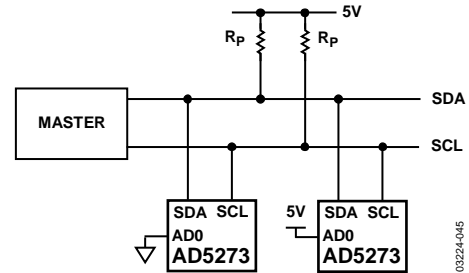

Figure 45. Two AD5273 Devices on One Bus
1. The master initiates data transfer by establishing a start condition. A start condition is defined as a high-to-low transition on the SDA line while SCL is high, as shown in Figure 42. The byte following the start condition is the slave address byte, which consists of six MSBs defined as 010110. The next bit is AD0; it is an I²C device address bit. Depending on the states of the AD0 bits, two AD5273s can be addressed on the same bus, as shown in Figure 45. The last LSB is the R/W bit, which determines whether data is read from or written to the slave device.
Figure 45 shows two AD5273 devices on the same serial bus. Each has a different slave address because the state of each AD0 pin is different. This allows each device to operate independently. The master device output bus line drivers are open-drain pull-down in a fully I²C-compatible interface.